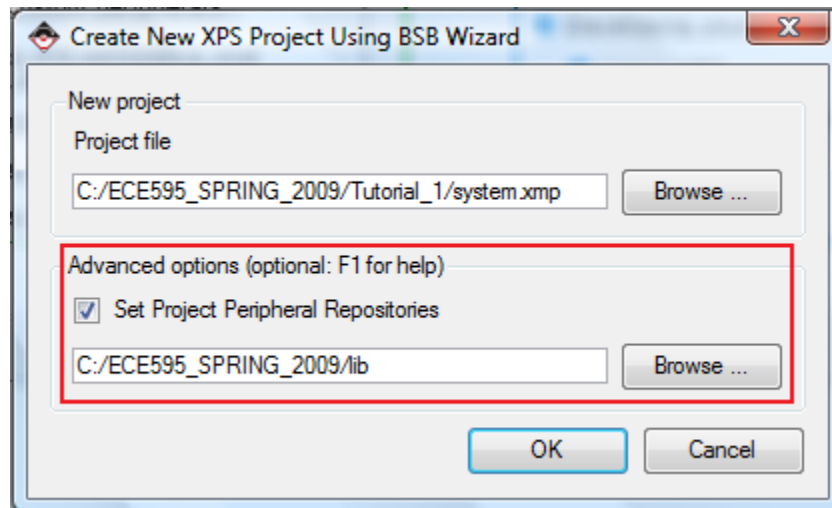

Figure 15: Project Directory and Repository Selection
14. The PLB connections are now shown. The user can see where the PLB makes connections with the BRAM and the UART. Figure 15 shows that there is only one software project associated so far, Default:ppc405_0_bootloop. Default:ppc405_0_bootloop contains the MicroBlaze™ or PowerPC™ bootloop (Step 17) executables that cause the MicroBlaze or PowerPC embedded processors to loop at the reset vector. This guarantees that the embedded processor stays in a known goodstate. XPS creates the bootloops automatically for each new project. To make use of the bootloop, mark the bootloop application in your XPS project for initialization of Block RAMs (BRAMs). Ensure that multiple applications are not initialized into the BRAMs at the same time.